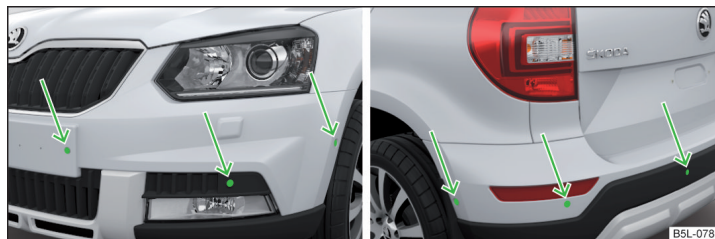

Fig. 133 Installation location of the sensors on the left side of the vehicle: front / rear
- Keep the system sensors » Fig. 133 on page 114 clean, snow- and ice-free and do not cover with any objects of any kind, otherwise the system functioning may be impaired.
The system uses ultrasound waves to calculate the distance between the bumper and an obstacle. The ultrasonic sensors are, depending on vehicle equipment, located in the back or in the front bumper » Fig. 133.